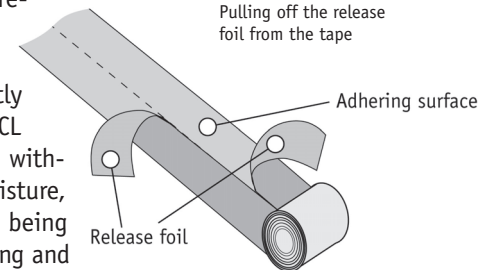

Fig. 17
17.17 It is important to apply the tape shortly after removing the release foil (fig. 17) and ensuring that it is placed directly on the coating of the GCL with light pressure and without any air traps, moisture, dust or other particles being captured between coating and tape.